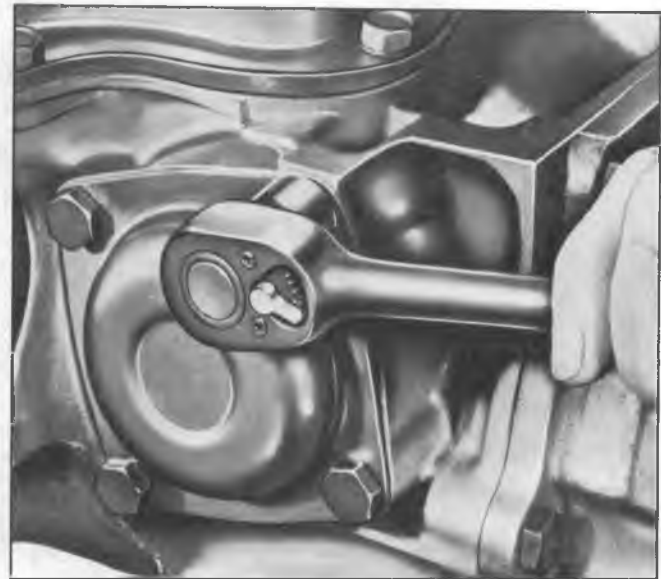

Fig. 5T--Removing Governor Cover Attaching Screws
1. Remove attaching screws, governor cover and gasket (fig. 5T). Discard gasket.